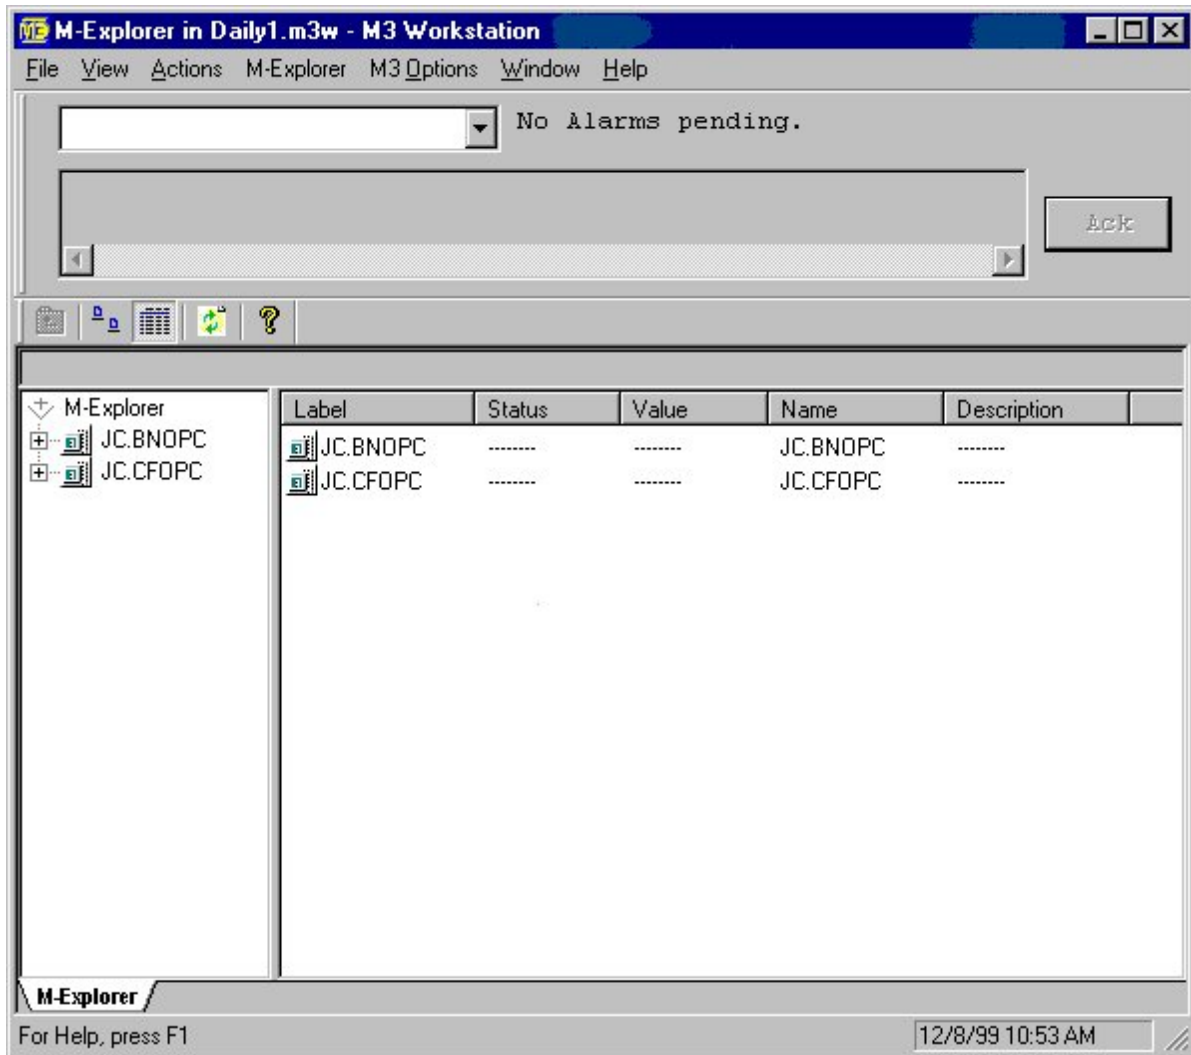

Figure 3-3: M-Explorer in M3 Workstation Display
4. Click OK. The M-Explorer workspace appears within the M3 Workstation display (Figure 3-3).
After granting access to the OPC servers in M-Password, open the M-Explorer software to browse them. Figure 3-3 is an example of an M-Explorer tree granting access to browse the BACnet OPC server and the Companion/Facilitator OPC server.